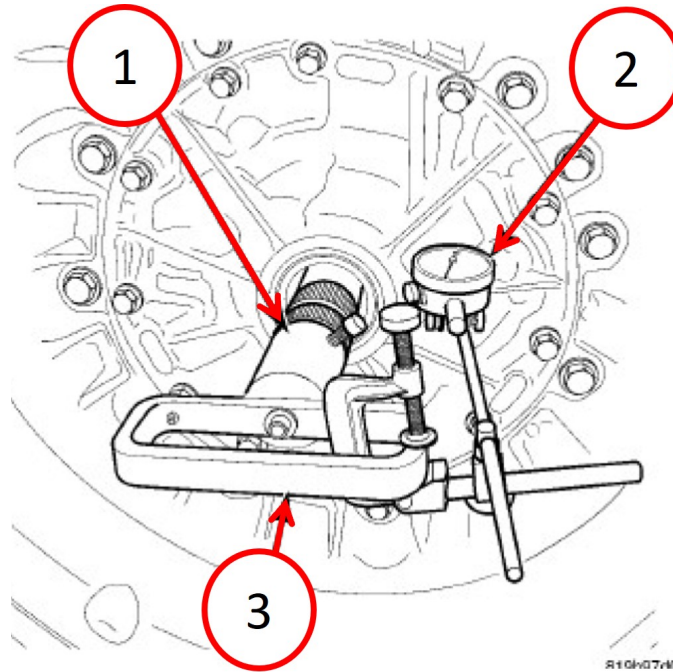

Fig. 3
- Using special tools Adapter Socket, End Play 8266-22 and the handle from End-Play Tool Set 8266B and Dial Indicator C-3339A, measure and record the input shaft end-play Fig. 3.